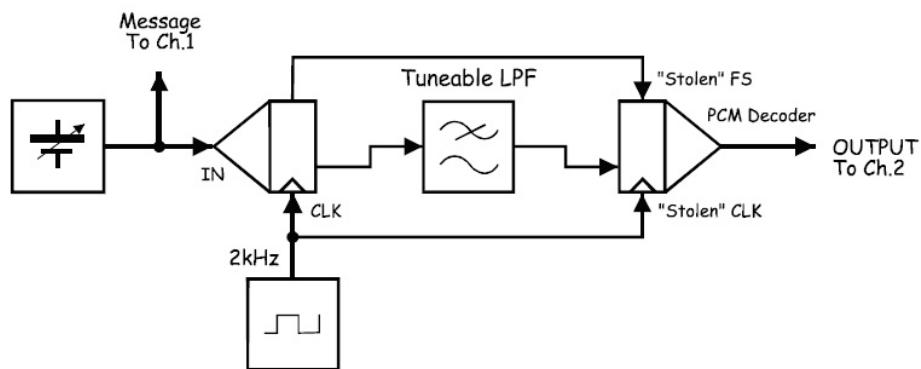

Figure 22: Channel bandwidth limitation model.
- Connect the setup shown by the block diagram in Figure 22 below. The Tunable Low-pass Filter module models the bandwidth limitation of the channel.